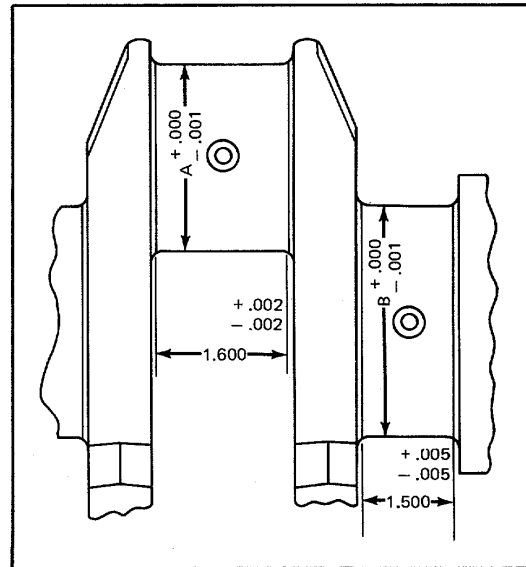

Figure 6. Dimensions of Crankshaft Journals - In-Line Engine
Measure all of the main and connecting rod bearing journals (Fig. 6). Measure the journals at several places on the circumference so that taper, out-of-round and bearing clearances can be determined. If the crankshaft is worn so that the maximum connecting rod journal-to-bearing shell clearance
1. Compare the crankshaft journal measurements taken during inspection with the dimensions in Table 1 and Fig. 6 and determine the size to which the journals are to be reground.